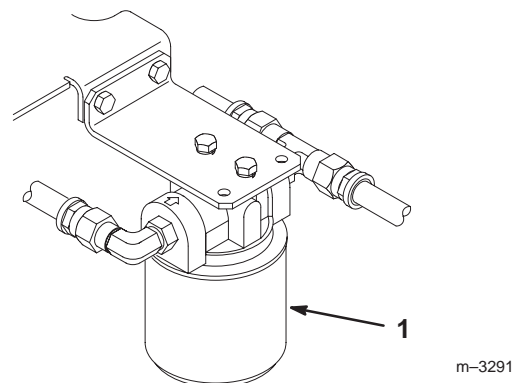

Figure 40
3. Place drain pan under filter, remove the old filter and wipe the filter adapter gasket surface clean (Fig. 40).